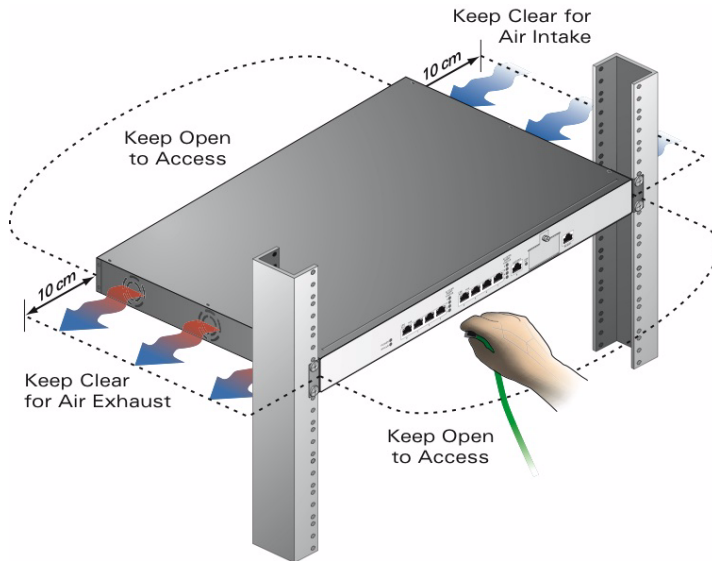

Figure 2-2
3. Ensure that there is adequate clearance around the chassis (Figure 2-2 on page 2-6).